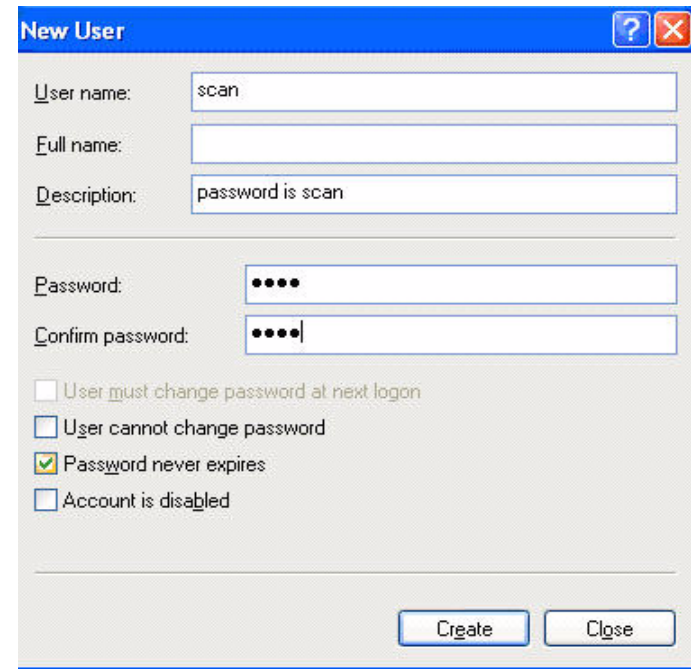

Figure 1 (new user)
3. Select the **Action** menu item and select **New User** (Figure 1).